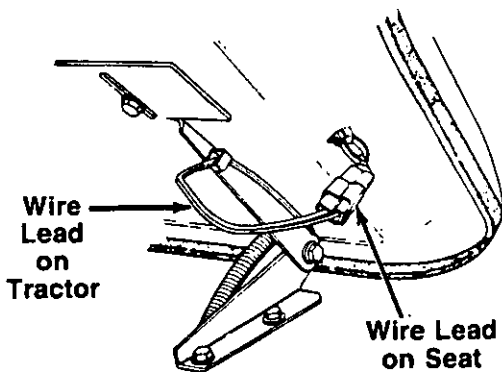

FIGURE 4.
2. Plug the wire lead which is in the wire harness beneath the seat into the plug on the wire lead extending from the right hand side of the seat. Make certain to route the wire in front of the right hand seat bracket so the wire is not pinched when raising and lowering the seat. See figure 4.